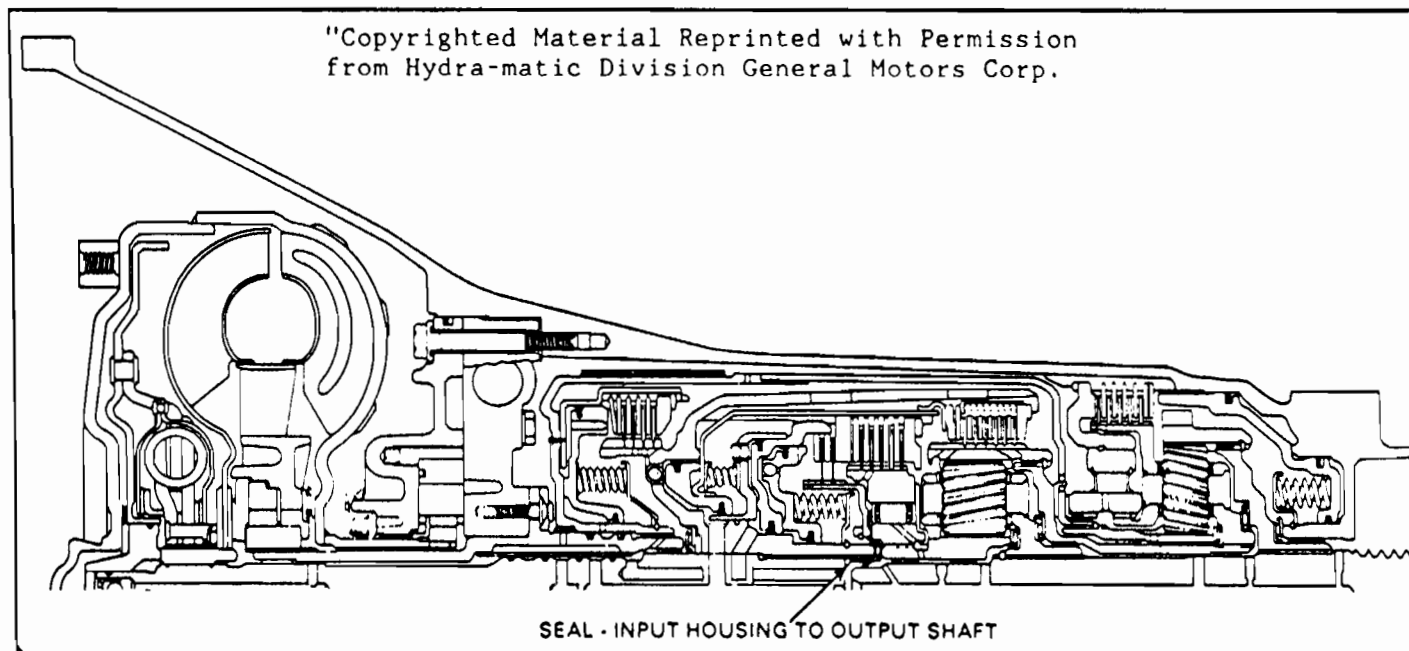
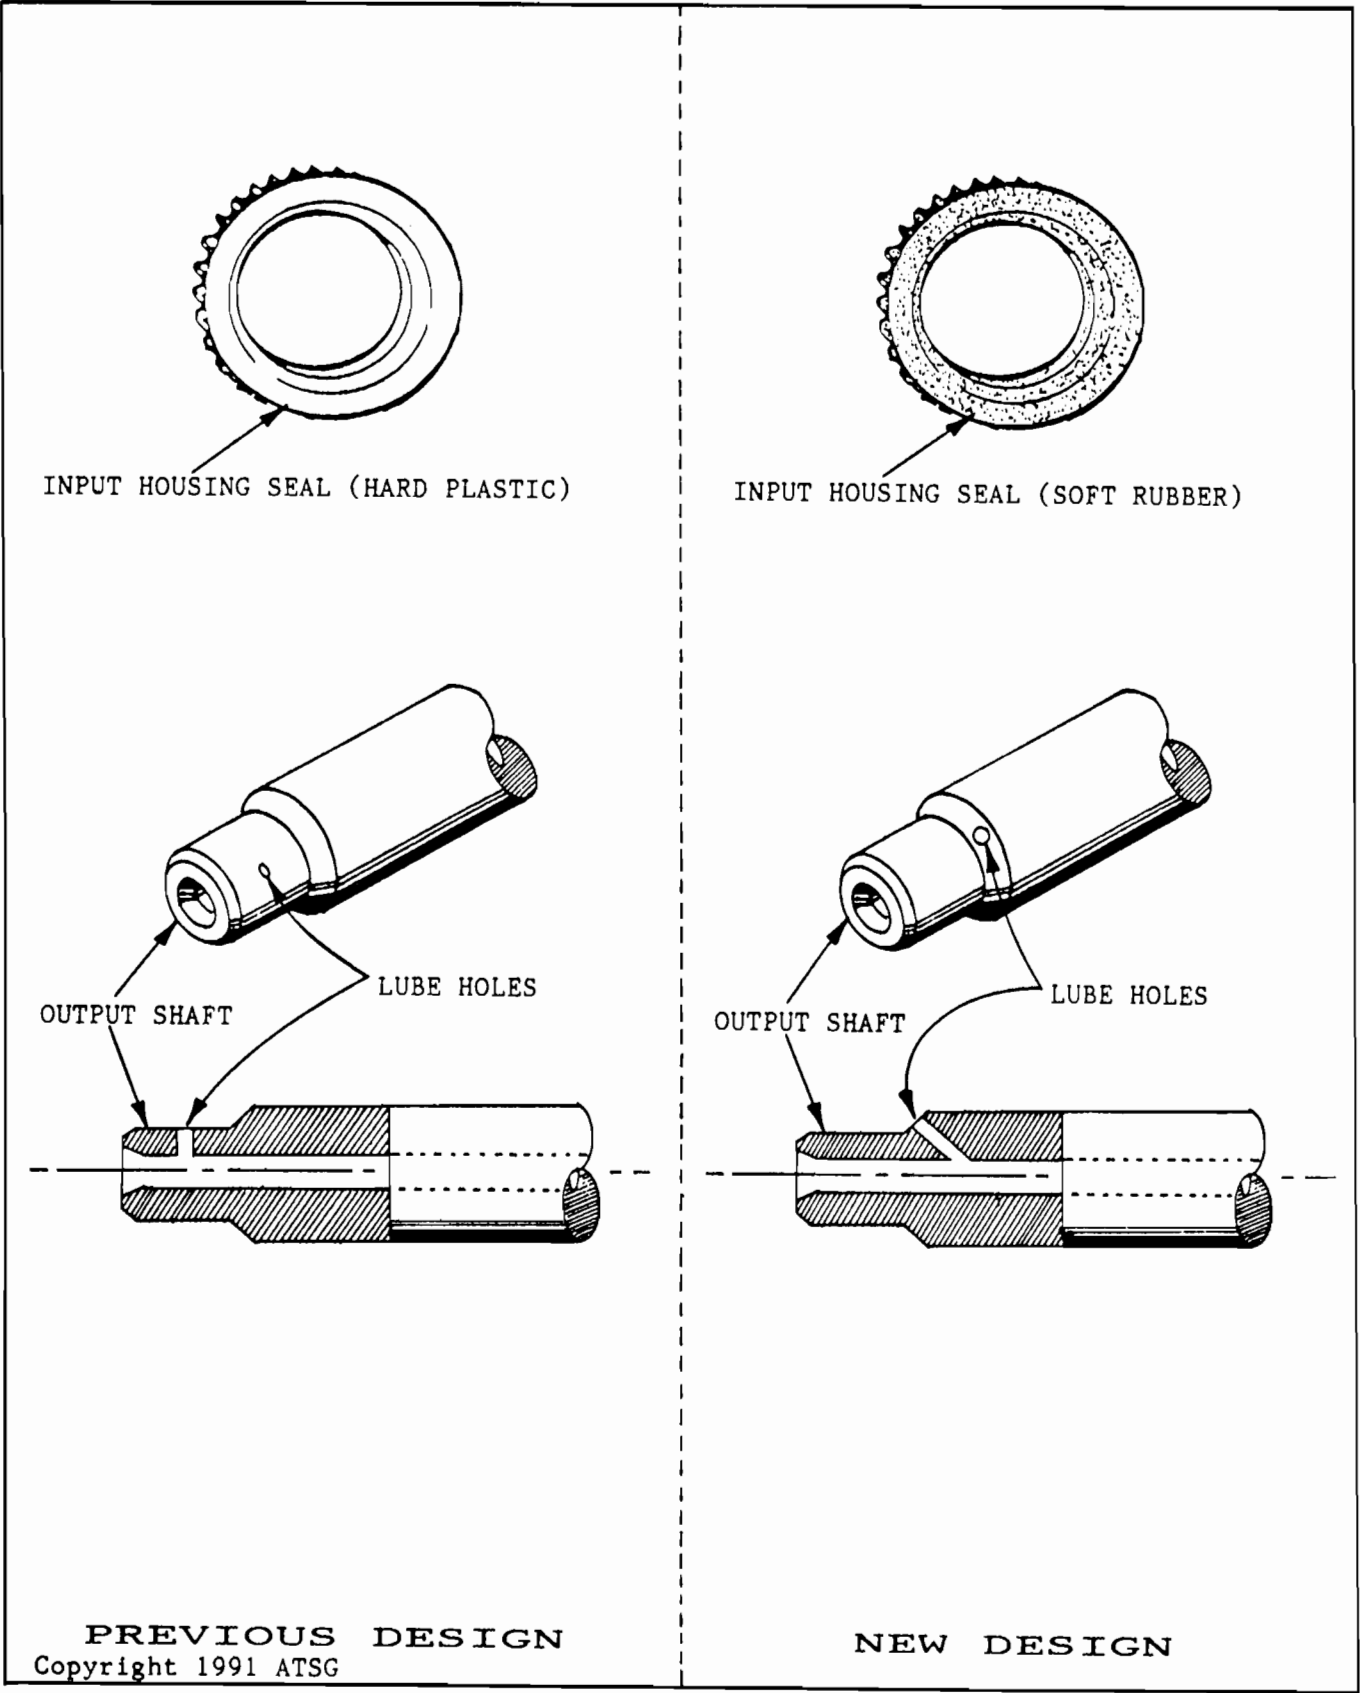

Figure 12
Figure 13
(See Figure 12).
(Refer to Figures 12 and 13).
- (2) OUTPUT SHAFT - Revised lube hole location. New design can be identified by lube hole in the chamfer at the front of the output shaft. Previous design has the lube hole located on the pilot at the front of output shaft (See Figure 13). The new design output shaft now aims lube oil directly at the Input Housing/Sun Gear Bearing, greatly increasing the durability of the bearing (See Figure 12).